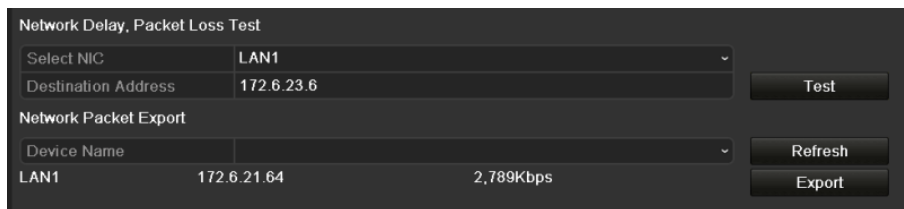

Figure 12-31 Network Detection Interface
Step 2 Click the **Network Detection** tab to enter the Network Detection menu, as shown in Figure 12-31.